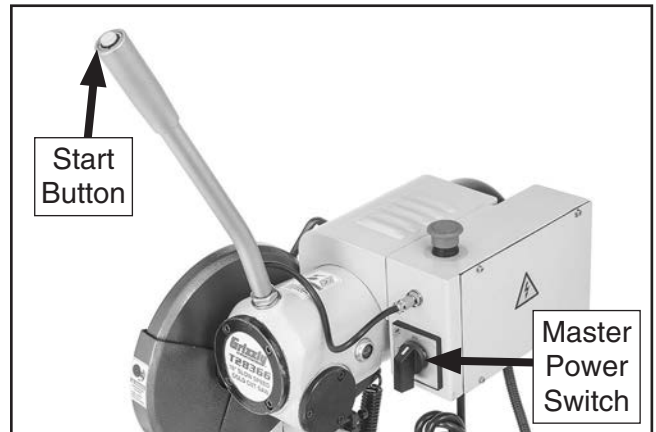

Figure 23. Location master power switch and start button.
2. Turn master power switch to "1" (ON) position and press start button on lever arm (see **Figure 23**).